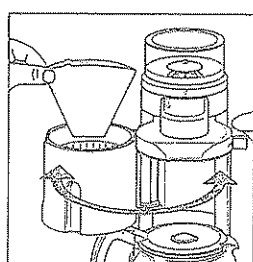

Figure 8
- Insert filter paper (Figure 8).
- Swing the swivel filter back (Figure 8).